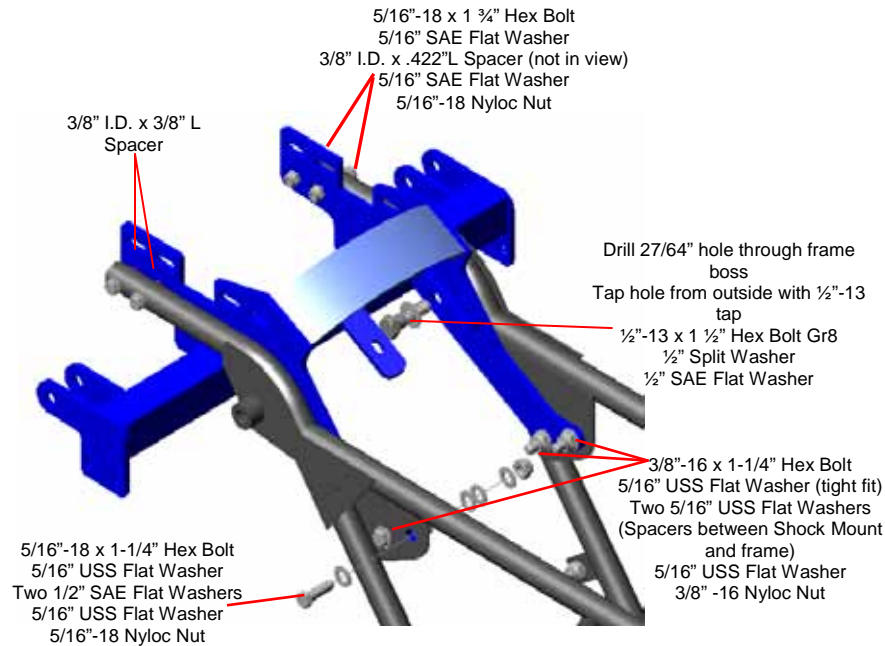

Figure 35
a. Install Shock Mount to vehicle frame. Use hardware as noted in illustration. Figure 35